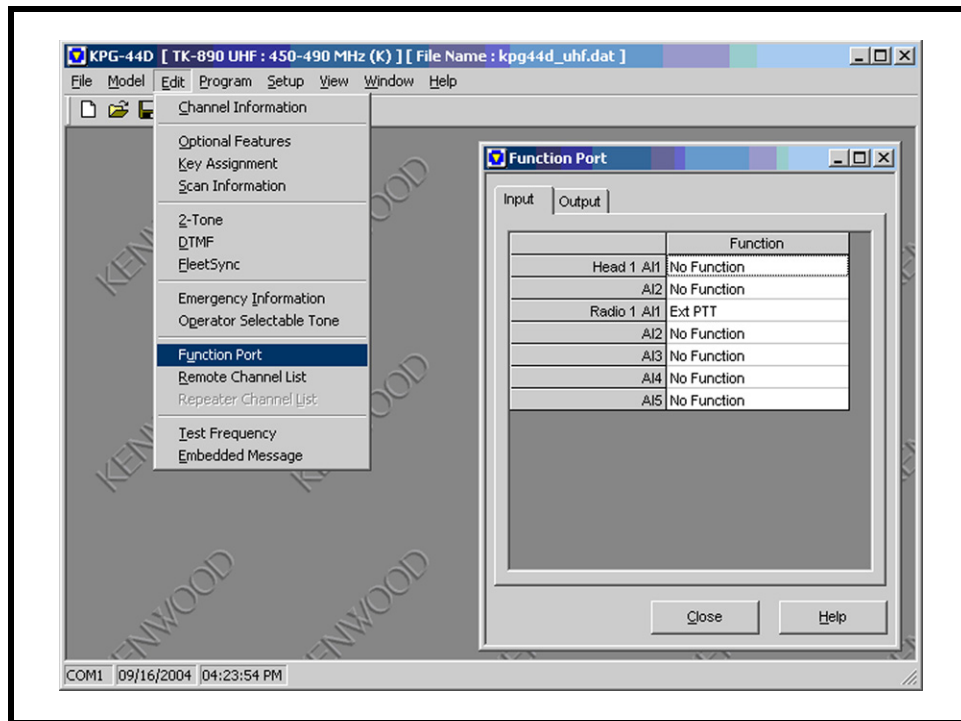

FIGURE 7. TK-x90 Function Port Input
1. Program **Function Port** window for Ext PTT in Radio 1 AI1. See Figure 7.